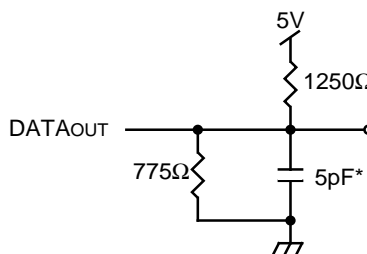

Figure 2. Output Load
1. Transition is measured ±500mV from Low or High-impedance voltage with Output Test Load (Figure 2).
1. Transition is measured  $\pm 500\text{mV}$  from Low or High-impedance voltage from the Output Test Load (Figure 2)..
6. This parameter is determined by device characterization, but is not production tested. Transition is measured  $\pm 200\text{mV}$  from steady state with the Output Test Load (Figure 2).